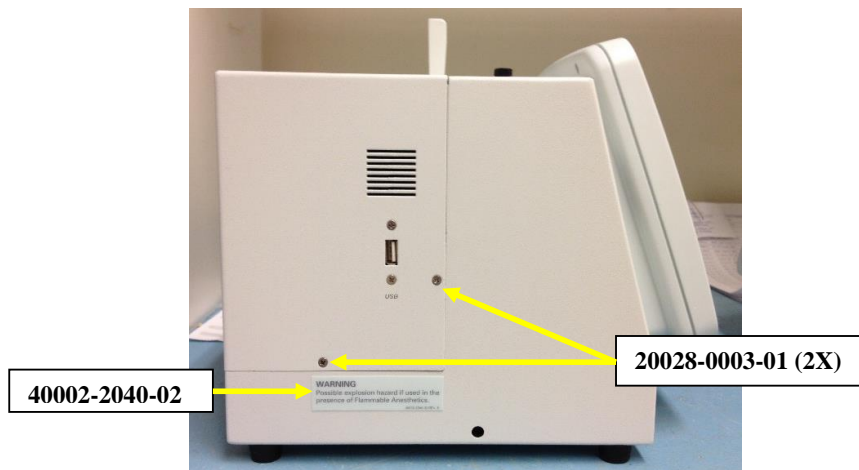
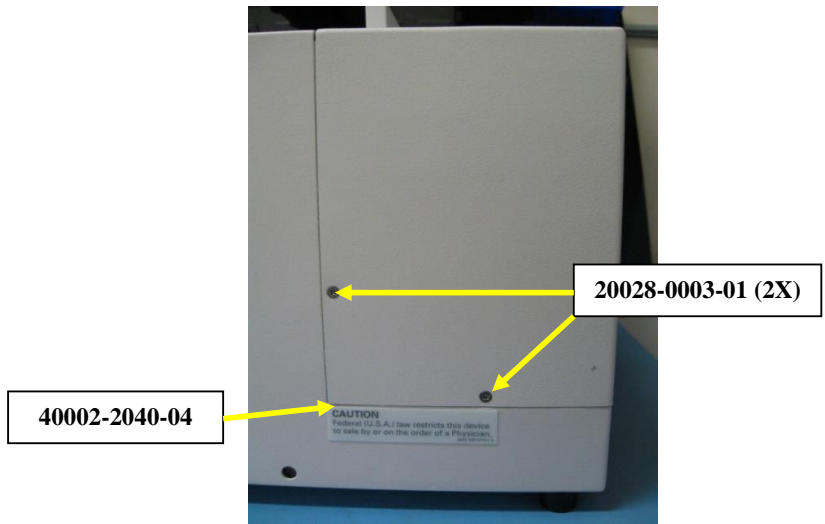
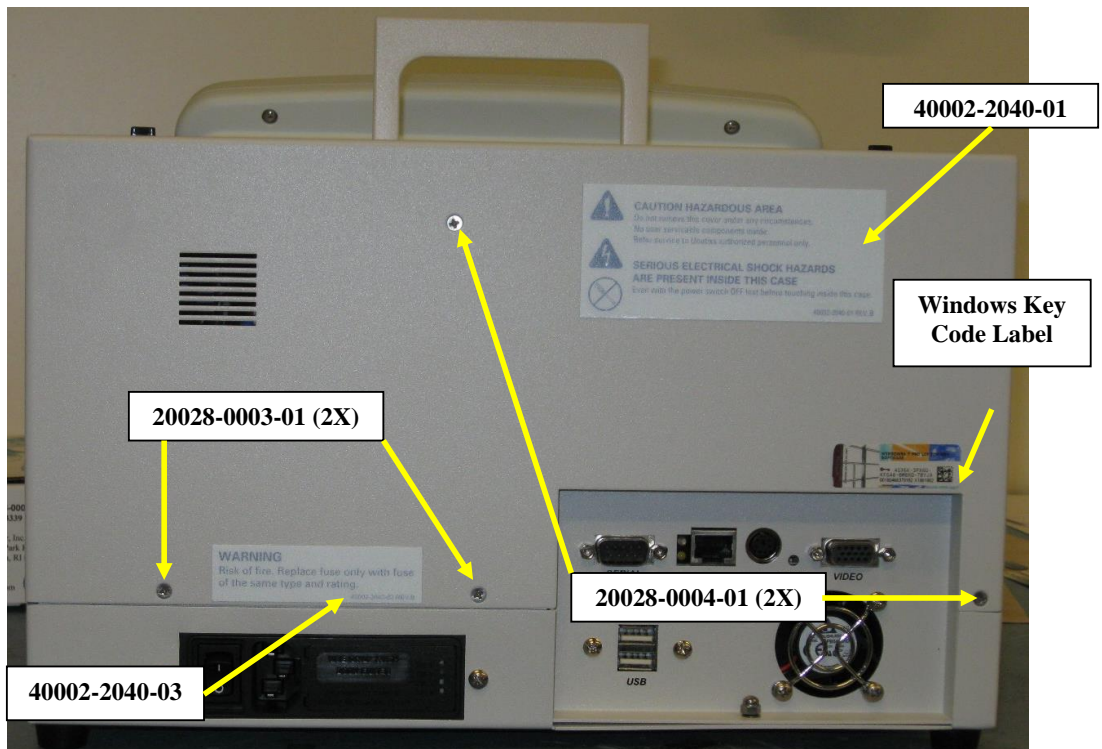

Figure 65
Figure 66
Figure 67
- 23.1.7. Affix the Windows key code label onto the back of the Cover as shown in Figure 67.
- 25.1. Apply the Explosion Warning Label (40002-2040-02) to the side of the Chassis with the USB as shown in Figure 65.
- 25.2. Apply the Physician Caution Label (40002-2040-04) to the other side of the Chassis as shown in Figure 66.
- 25.3. Apply the Fire Warning Label (40002-2040-03) to the Cover above the Power Entry Module (see Figure 67).
- 25.4. Apply the Caution Label (40002-2040-01) to the Cover, centered between the two screws (see Figure 67).
- 25.5. Attach the Cover to the Chassis with nine (9) 4-40x3/16" Flat Head Screws (20028-0003-01) as shown in Figure 65, Figure 66, Figure 67 and Figure 68.
- 25.6. Attach the Cover to the Chassis with two (2) 4-40x1/4" Flat Head Screws (20028-0004-01) as shown in Figure 67.